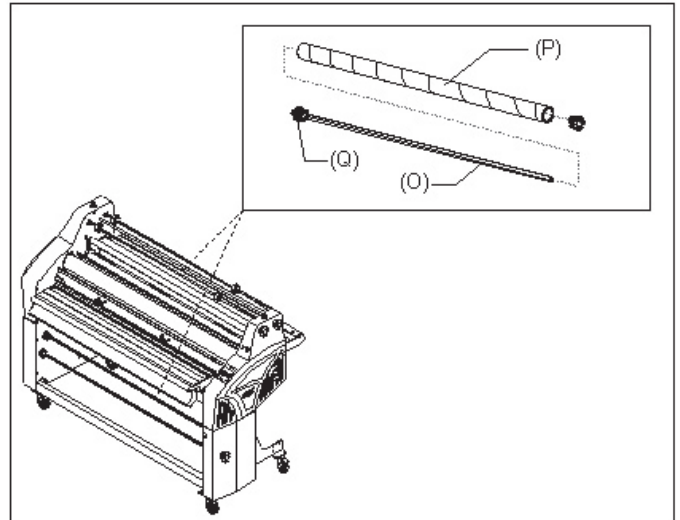

Fig 19
O. REWIND SHAFT: (Figure 19 on next page) The rewind shaft holds the rewind tube on the machine.
P. REWIND TUBE: (Figure 19) The two rewind tubes located at the front of the machine are used to rewind release liners. The one located at the rear of the machine is used to rewind the finished product.
Q. REWIND ADAPTORS: (Figure 19) Hold and lock the rewind tube on the rewind shafts to prevent side to side shifting.